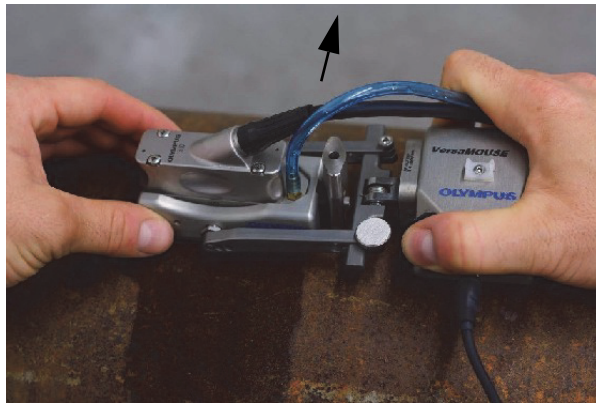

Figure 2-2 VersaMOUSE inspection sweep
8. Hold the VersaMOUSE securely with one hand, and the wedge with the other hand for maximum stability, and then move the unit along the inspection path in a smooth, continuous motion (see Figure 2-2 on page 26).